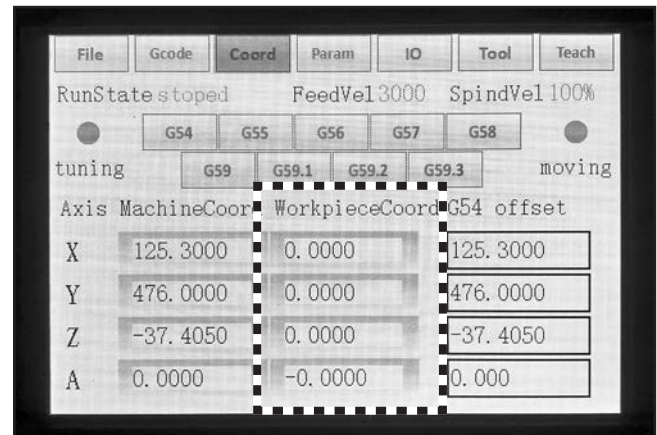

Figure 48. Location of WorkpieceCoord column in coordinate screen.
4. Use menu navigation keys to move cursor over desired axis in WorkpieceCoord column (see **Figure 48**), then press "Enter" button.